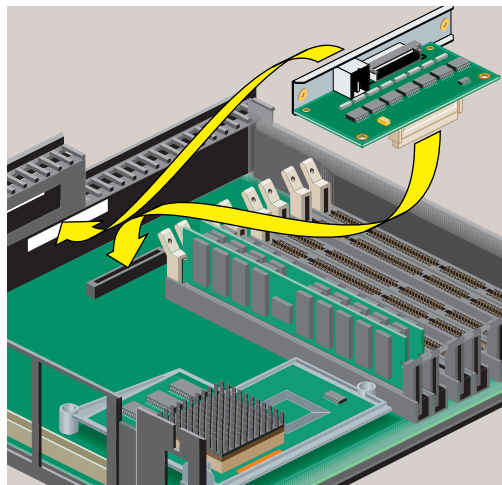

Figure 2-36 Installing the Flat Panel/Stereo View Option Board
3. To install the digital display adapter board, align the connector beneath the board with the connector on the system board (Figure 2-36). Push the board firmly into the socket until the connectors are completely seated.